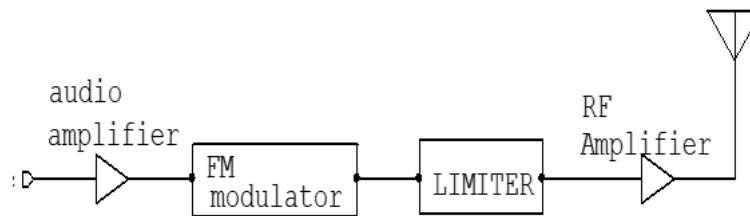

Figure 17.5: Block diagram of FM transmitter
Figure 17.5 shows a block diagram of an FM transmitter. It is similar to the AM transmitter, however, the difference lies in the method of modulation and the inclusion of a unit called **Limiter**. Frequency Modulation (FM) involves the impressing of a signal wave onto a carrier wave by changing the frequency of the carrier or RF signal. The FM carrier is either VHF or UHF.